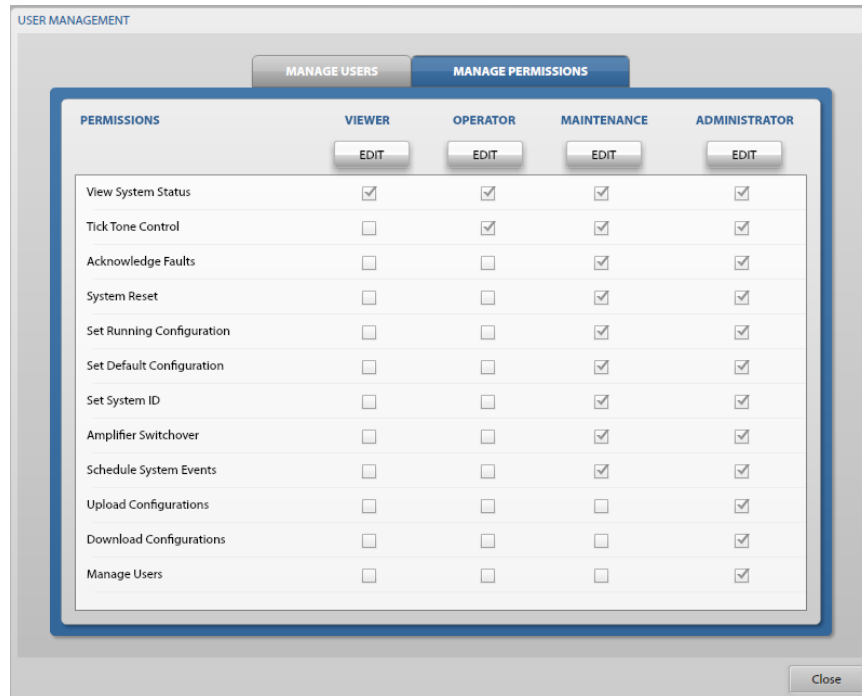

Figure 28. Manage Permissions Screen
1. Click **EDIT** below each permission level to edit the permissions for that level (see Figure 28).